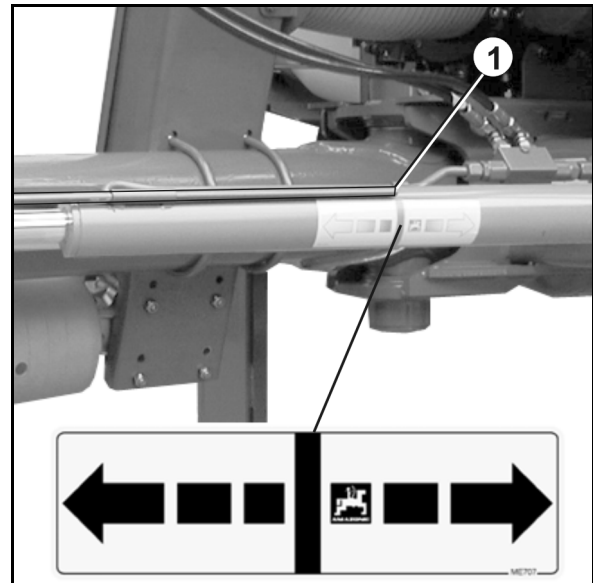

Fig. 37
1. Actuate tractor control unit *blue* until the drawbar is at the zero setting (Fig. 37/1).